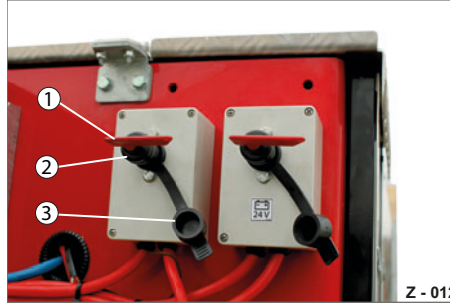

Abb. 18 Power supply from towing vehicle left-hand main switch
- ▶ Insert the plug-in switch (Abb. 18/1) into the socket (Abb. 18/2).
- ▶ Turn the plug-in switch (Abb. 18/1) to ON position.